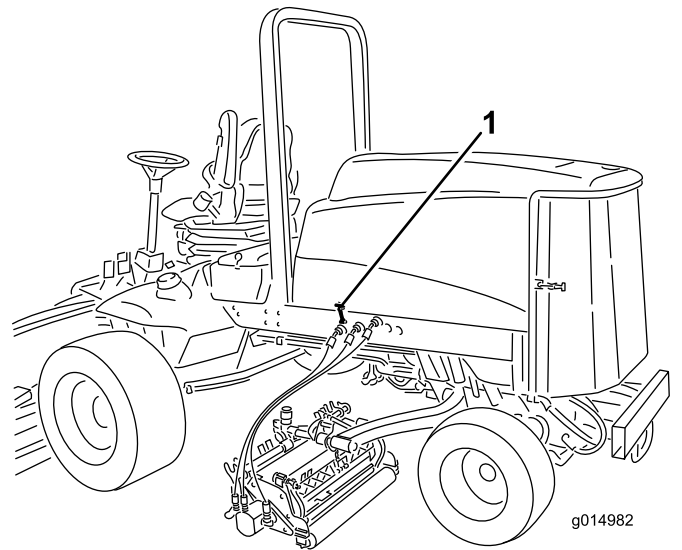

Figure 32
2. Unlock the hood latches and open the hood (Figure 32).